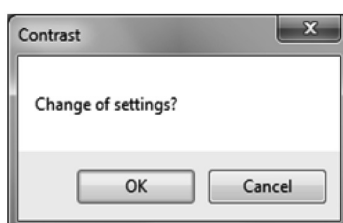

Fig.96
④ After the setting is complete, click the "OK" button to display a message box (Fig. 96).